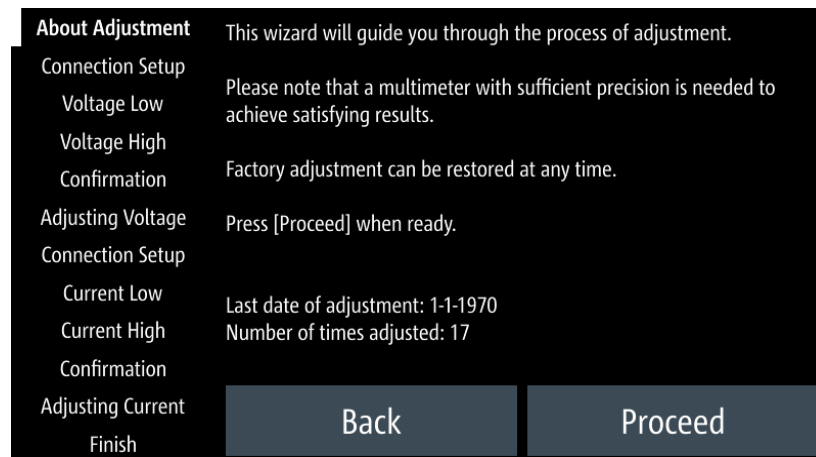
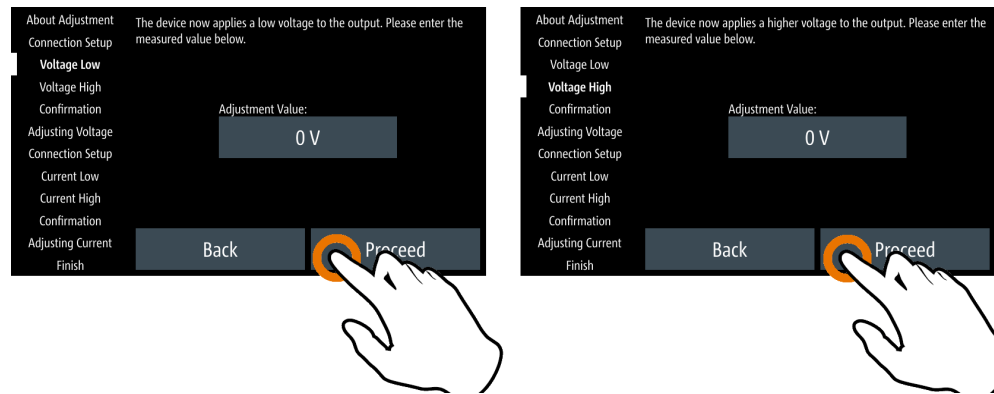

Figure 7-75: Channel adjustment wizard
Figure 7-76: Channel adjustment procedure
- Follow the on-screen instructions displayed in the Figure 7-75. The R&S NGP800 applies a low voltage/current followed by a high voltage/current for voltage/current adjustment. Key in the measured value from DMM using the on-screen keypad. See Figure 7-76.